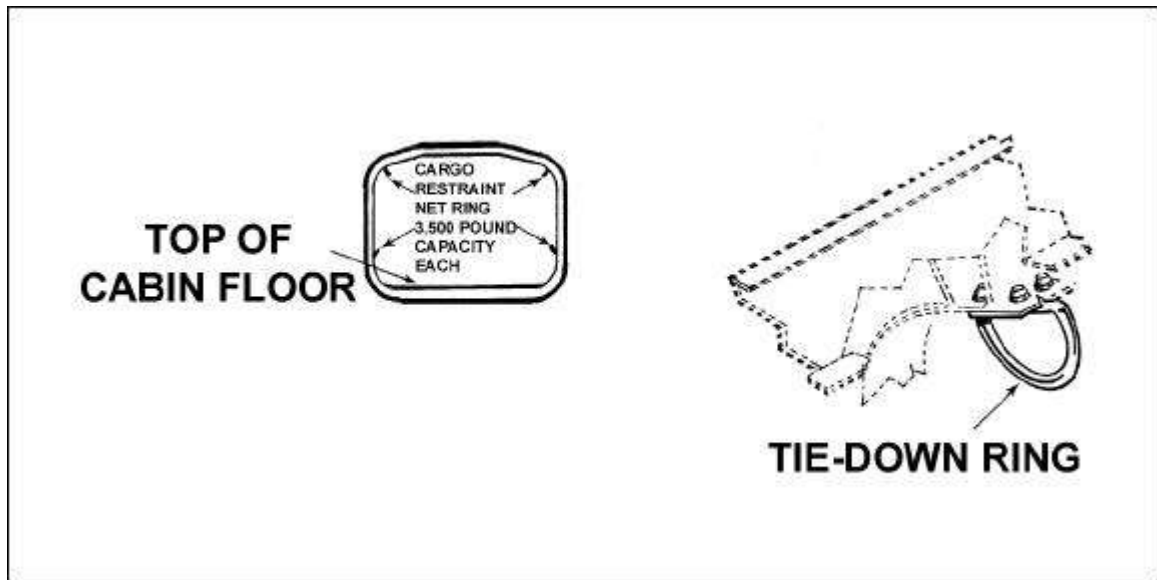

Figure 3-15. Secondary snaplink attaching point.
(2) *Secondary anchor points.* Ties a bowline with a half hitch about 1 1/2 feet from the standing end of the rope. Attaches the secondary snaplink to the adjacent overhead cargo restraint net ring (Figures 3-15 and 3-16).